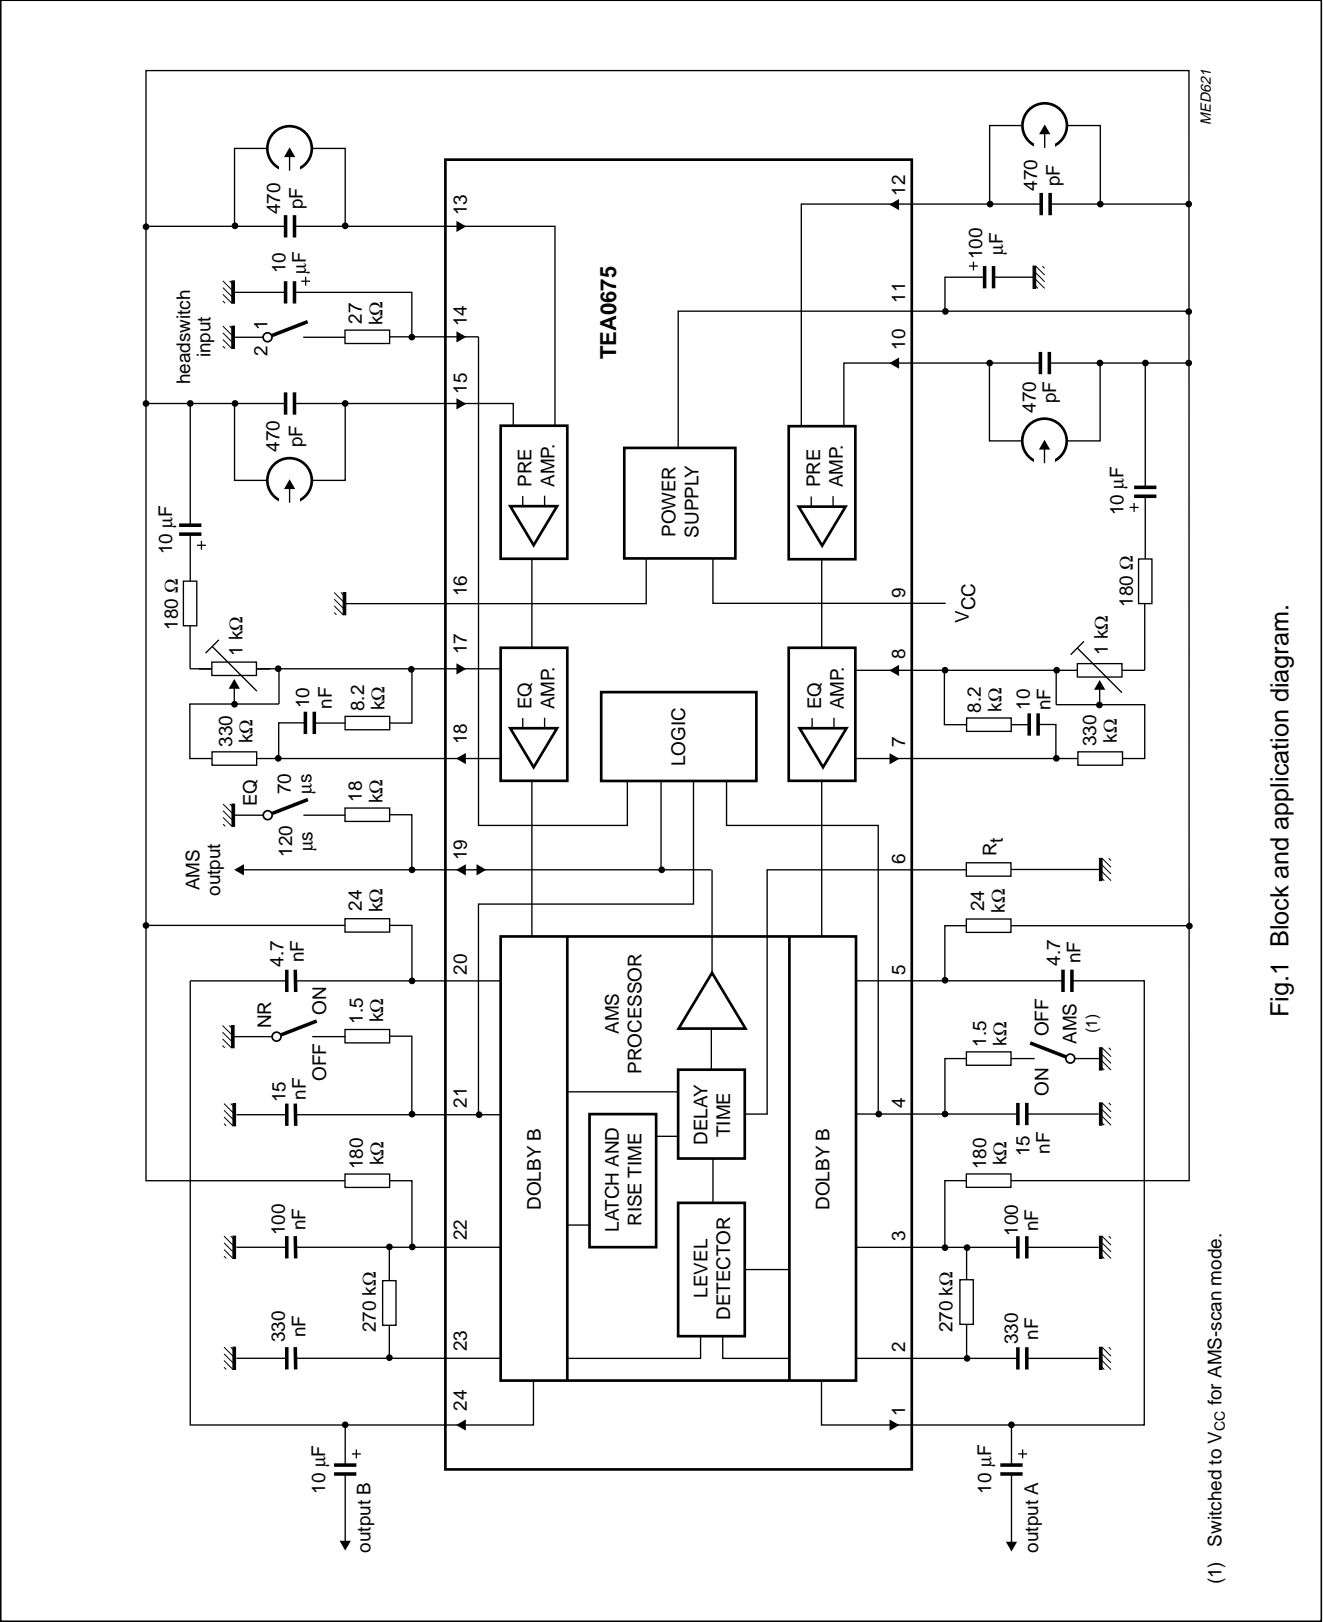

Fig.1 Block and application diagram.
Equalization time constant switching (70 μ s or 120 μ s) is achieved when pin AMSEQ is connected to GND via an 18 k Ω resistor (120 μ s), or left open-circuit (70 μ s). This does not affect the AMS output signal during AMS mode (see Fig.1).
$V_{CC} = 10\text{ V}$; $f = 20\text{ Hz}$ to 20 kHz ; $T_{amb} = 25\text{ °C}$; all levels are referenced to 387.5 mV (RMS) (0 dB) at test point (TP) pin OUTA or OUTB; see Fig.1; NR on/AMS off; EQ switch in the 70 μs position; unless otherwise specified.